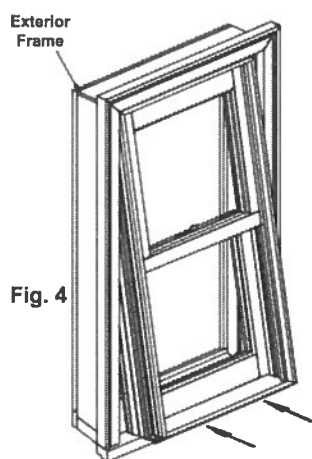

Fig. 4
2. **Exterior Installation:** Center unit in opening and press it firmly against interior stops. See Figure 4.